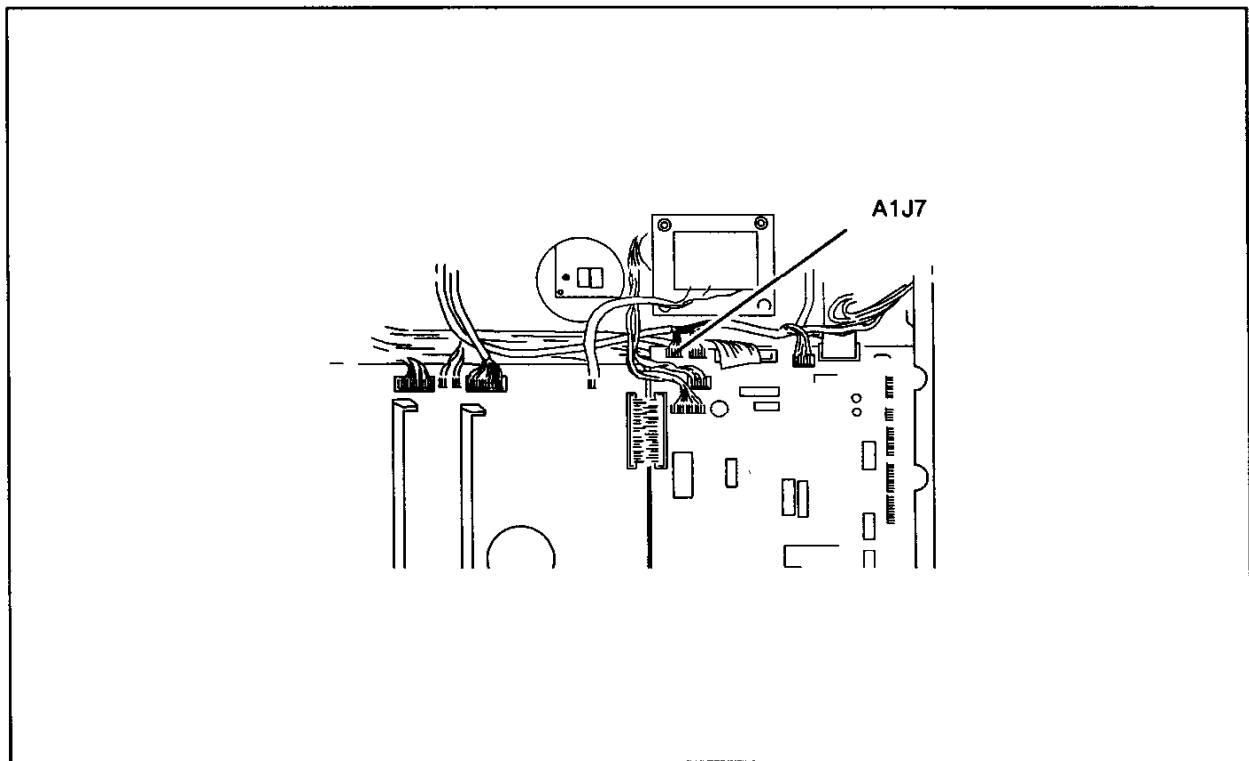

Figure 6-9. Carousel Motor Removal
a. Turn the plotter line switch to OFF (O) and disconnect the ac power cord.
c. Disconnect the motor connector on J7 of the Processor PCA (A1). See Figure 6-9.